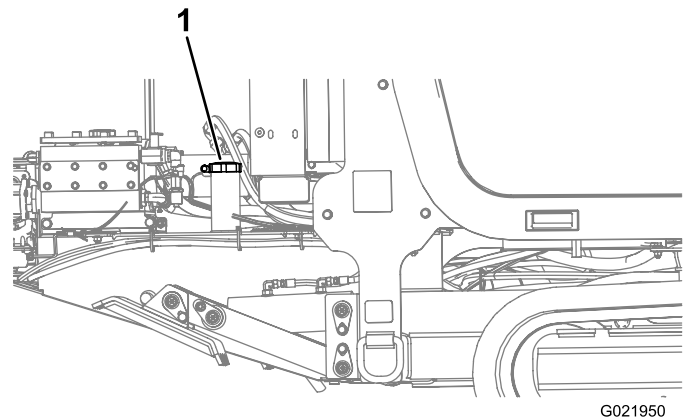

Figure 69
4. Remove the cap from the fuel tank (Figure 69).